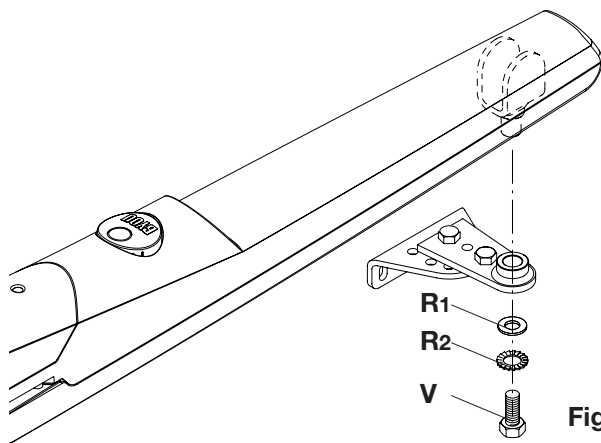

Fig.15
- Apply the bracket BTY.2 to the gear motor pin, blocking it with screw V, positioning the washers R1 and R2 as indicated in figure 15.